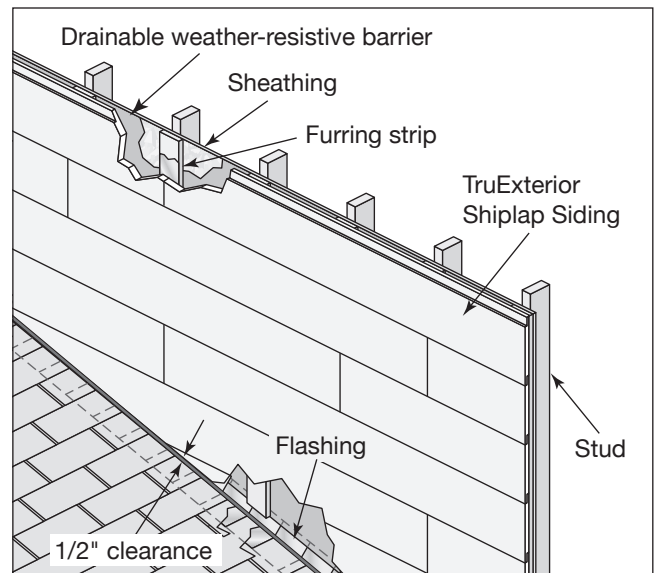

Fig. 51
- Install step flashing behind the weather barrier and furring strip and allow a 1/2" clearance from the bottom edge of the siding to the roof to allow for air flow and water drainage (**Fig. 51**)